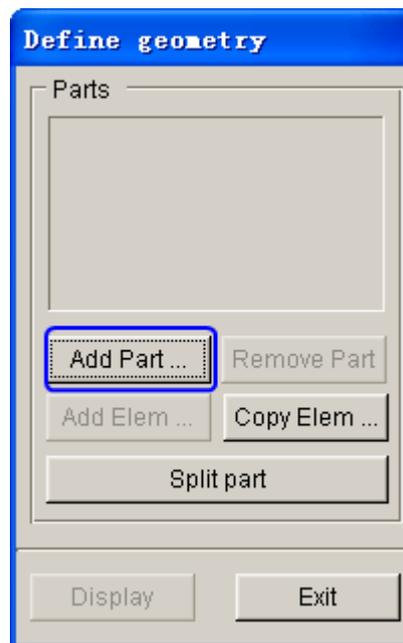

Figure 3.8 Define geometry dialog box
- The DEFINE GEOMETRY dialog box illustrated in Figure 3.8 is displayed.